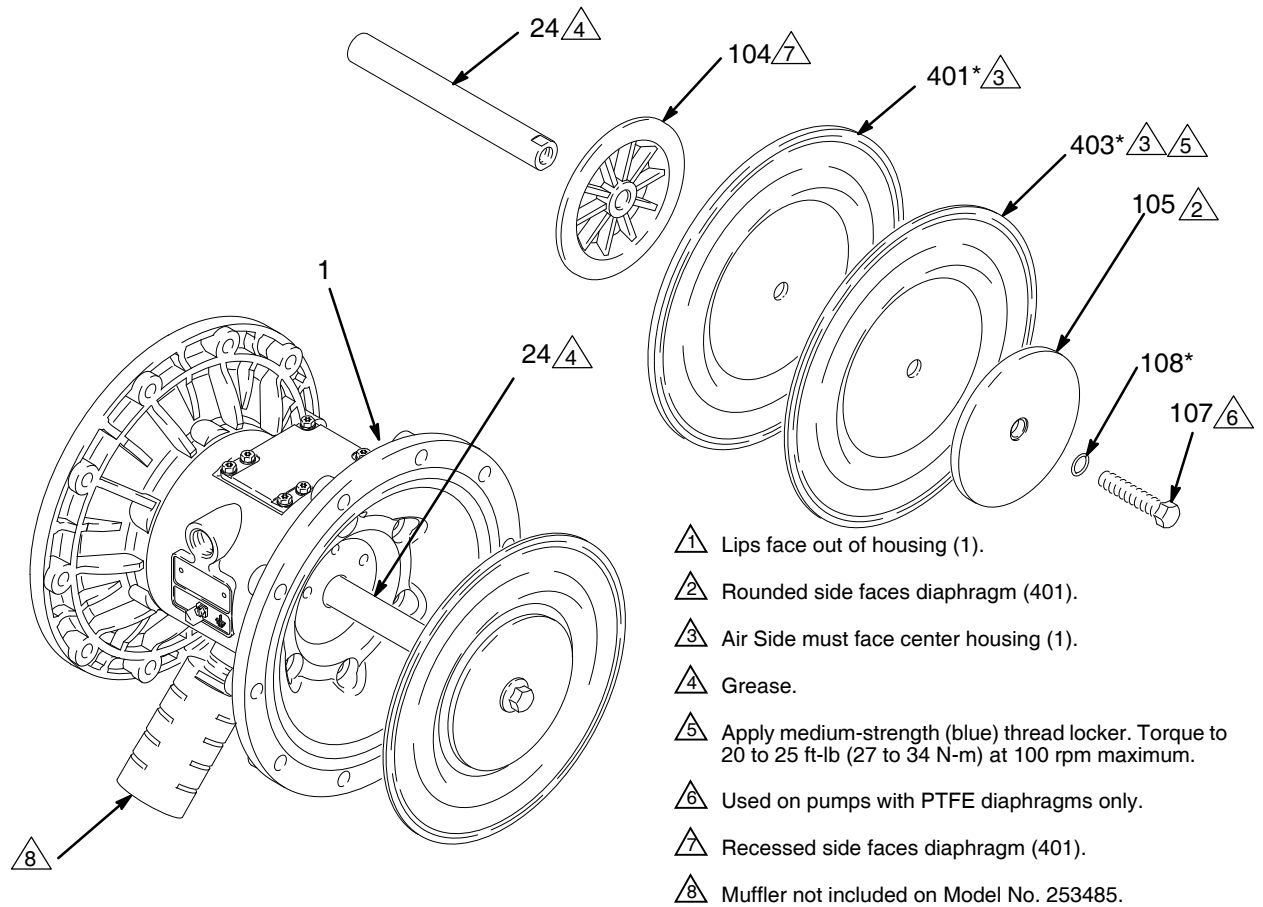

FIG. 12
4. Loosen but do not remove the diaphragm shaft bolts (107), using a 15 mm socket wrench (1 in. on stainless steel models) on both bolts. *NOTE: This step does not apply to pumps with overmolded diaphragms.*
5. Unscrew one bolt from the diaphragm shaft (24) and remove the o-ring (108), fluid side diaphragm plate (105), PTFE diaphragm (403, *used on PTFE models only*), diaphragm (401), and air side diaphragm plate (104). See FIG. 12.
1. Install the shaft u-cup packings (402*) so the lips face **out** of the housing (1). Lubricate the packings. See FIG. 12.
2. Install the diaphragm assembly on one end of the shaft (24) as follows. *For pumps with overmolded diaphragms, go directly to step g.*
and hook the u-cup packings (402), then pull them out of the housing. Inspect the packings. See FIG. 12.